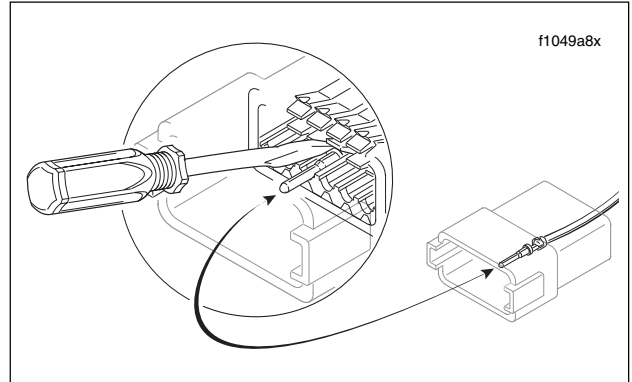

Figure 8-18. Depress Terminal Latches/Back Out Pins
2. Gently depress terminal latches inside socket housing and back out sockets through holes in rear wire seal. See Figure 8-18.